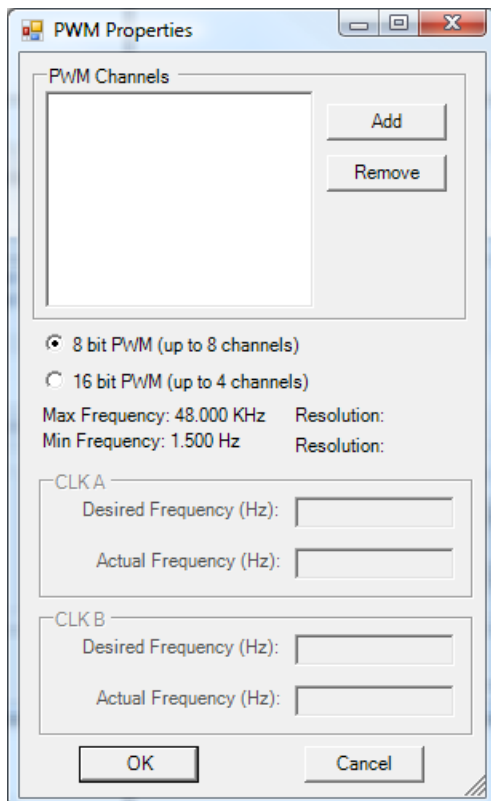

Figure 2.9 - PWM Properties Window
3. Click the **PWM PROPERTIES** button. The PWM Properties Window will open. Refer to Figure 2.9.
8. Enter the desired frequency for Clock A and Clock B (if installed). The HEC has 6 available PWM Channels. These channels are either controlled with Clock A or Clock B. This allows two different PWM frequencies. The Minimum and Maximum frequencies are displayed in the PWM Properties dialog. The frequency for Clock A and Clock B must be in this range. Refer to Figure 2.9.